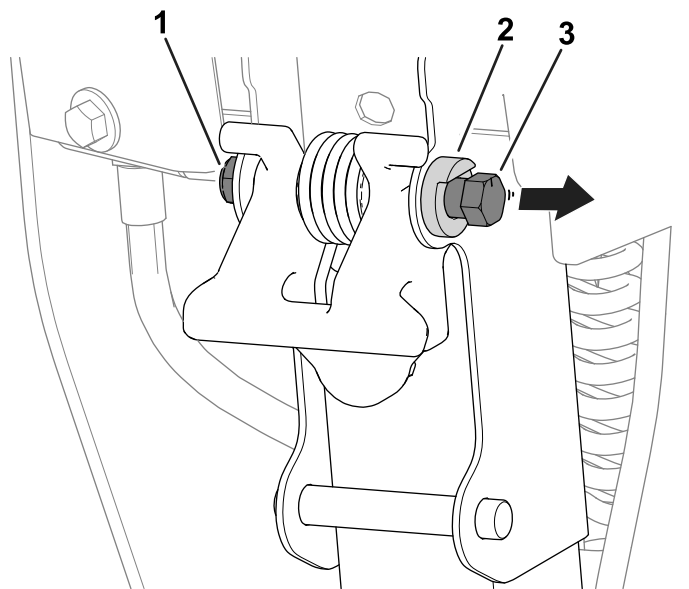

Figure 13
1. Loosen the nut on the latch bolt so that the bolt head can move freely just beyond the pivot stop (Figure 13).
3. Tighten the nut on the latch bolt (Figure 13) so that the new bolt position is secured against the pivot stop.